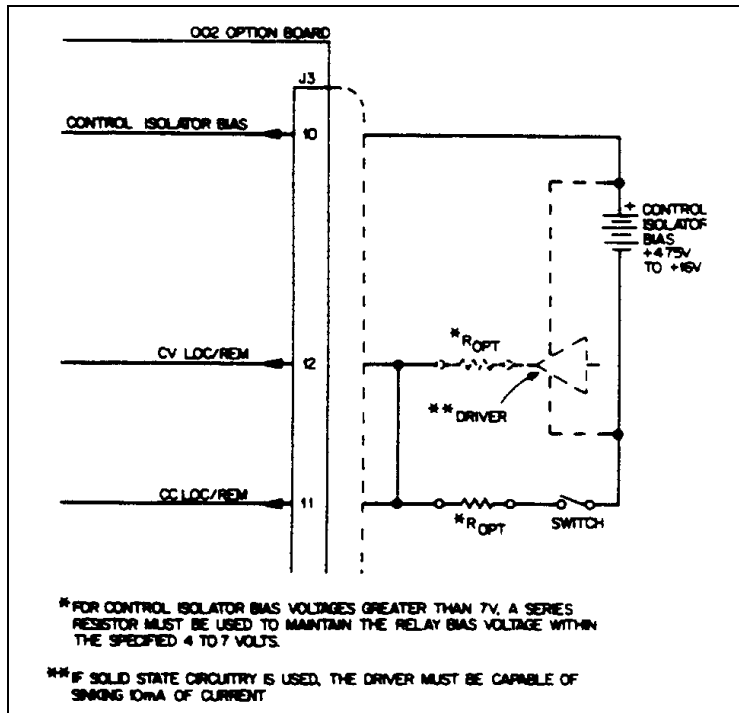
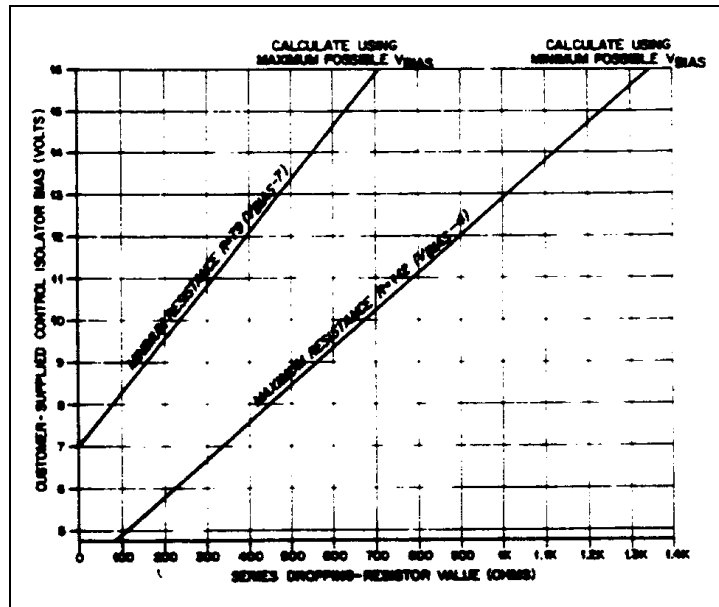

Figure A-3. Accessing Local Programming while in Remote Programming Mode
Figure A-4. Calculating Value of Series Dropping Resistor
Local Programming (Figure A-3). The supply can be switched back and forth between remote and local programming while initially checking out a remote programming circuit. For proper operation of local programming, the user must supply the bias voltage (CONTROL ISOLATOR BIAS). The Control Isolator Bias voltage can range from +4.75V to +16V depending upon the user's interface circuits. Refer to Specifications Table A-1. For local programming, take the Control Isolator Bias common and connect it to both of the LOC/REM terminals, and position mode switch as indicated in Operation.
Although CONTROL ISOLATOR BIAS can be +4.75V to +16V, a supply voltage of more than 7V may damage the relays. Therefore, if CONTROL ISOLATOR BIAS exceeds 7V it is necessary to use a resistor in series with each of the LOC/REM terminals. Figure A-4 provides a graph from which the proper series resistance value can be determined. Note that the tolerances of both the Control Isolator Bias and the resistor must be taken into account. The actual Control Bias used in Figure A-4 is obtained after subtracting any driver gate voltage drop.
If solid state circuitry is used, connect the Control Isolator Bias to a driver capable of sinking 10mA of current, then connect the driver's output to both of the LOC/REM terminals. Refer to Figure A-3. Either method will enable relays K1 (CV) and K2 (CC) to switch regulation to the front panel VOLTAGE and CURRENT controls. For Control Isolator Bias voltages greater than 7V, a resistor (R_{opt}) must be used in series with the Control Isolator Bias common or the Driver's output. Figure A-4 provides a graph for determining the proper series resistance value depending on the Control Isolator Bias voltage being used.
Observe the caution described in Local Programming (Figure A-3) paragraph, page 96.